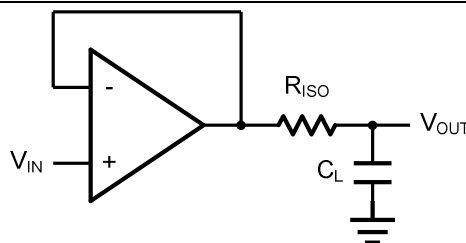
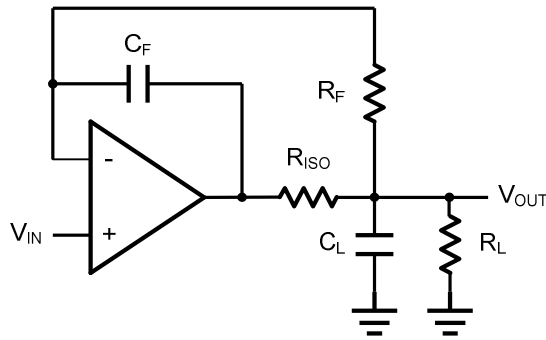

Figure 2. Indirectly Driving a Capacitive Load Using Isolation Resistor
Figure 3. Indirectly Driving a Capacitive Load with DC Accuracy
The BDM321 is optimized for bandwidth and speed, not for driving capacitive loads. Output capacitance will create a pole in the amplifier's feedback path, leading to excessive peaking and potential oscillation. If dealing with load capacitance is a requirement of the application, the two strategies to consider are (1) using a small resistor in series with the amplifier's output and the load capacitance and (2) reducing the bandwidth of the amplifier's feedback loop by increasing the overall noise gain. Figure 2. shows a unity gain follower using the series resistor strategy. The resistor isolates the output from the capacitance and, more importantly, creates a zero in the feedback path that compensates for the pole created by the output capacitance.
The circuit in Figure 3 is an improvement to the one in Figure 2. R_F provides the DC accuracy by feed-forward the V_{IN} to R_L . C_F and R_{ISO} serve to counteract the loss of phase margin by feeding the high frequency component of the output signal back to the amplifier's inverting input, thereby preserving the phase margin in the overall feedback loop. Capacitive drive can be increased by increasing the value of C_F . This in turn will slow down the pulse response.